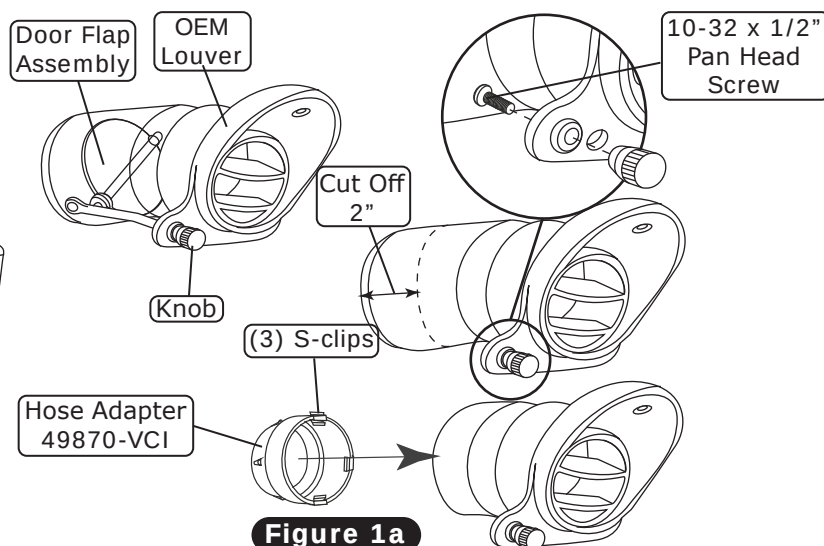

Figure 1a
7. Install the driver- and passenger-side hose adapters onto the driver- and passenger-side OEM louvers (See Figure 1a, below).